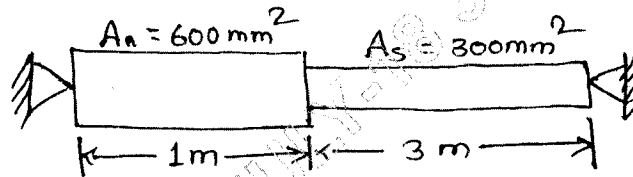

Fig. Q2 (c)
c. A composite bar is rigidly fitted at the supports A and B as shown in Fig. Q2 (c). Determine the reactions at supports when temperature rises by 20°C . Take $E_a = 70 \text{ GN/m}^2$, $E_s = 200 \text{ GN/m}^2$, $\alpha_a = 11 \times 10^{-6} / ^\circ\text{C}$, $\alpha_s = 12 \times 10^{-6} / ^\circ\text{C}$. (10 Marks)